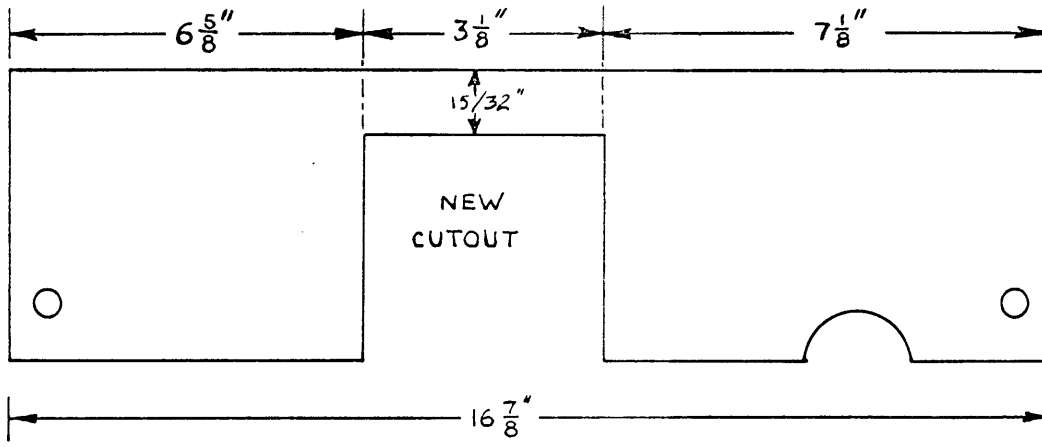

Figure 4. CSS, Top Cover, Rear View
19. Refer to figure 4 and, using metal shears (item 9, table 2), cut CSS top cover to fit around AX-546.
21. Using an identification plate (item 1, table 1) as a template, drill identification plate mounting holes directly below existing identification plate.
22. Use screws (item 12, table 1) to mount identification plate, (item 1, table 1) below existing identification plate.
- (c) Connect one end of CA-480-3-9 (item 7, table 1) to J602 on CSS; connect other end of CA-480-3-9 to INTERNAL STD IN jack Js on AX-546.